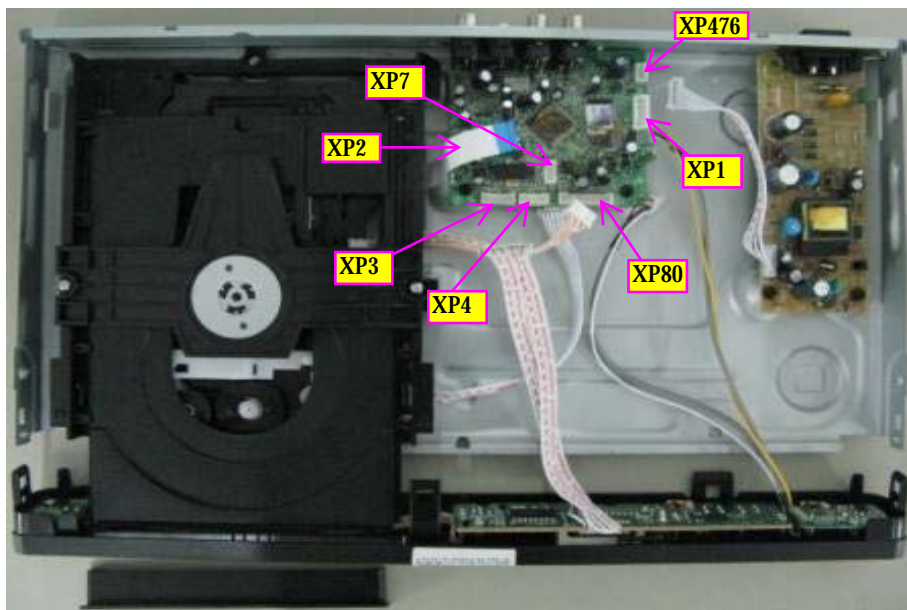
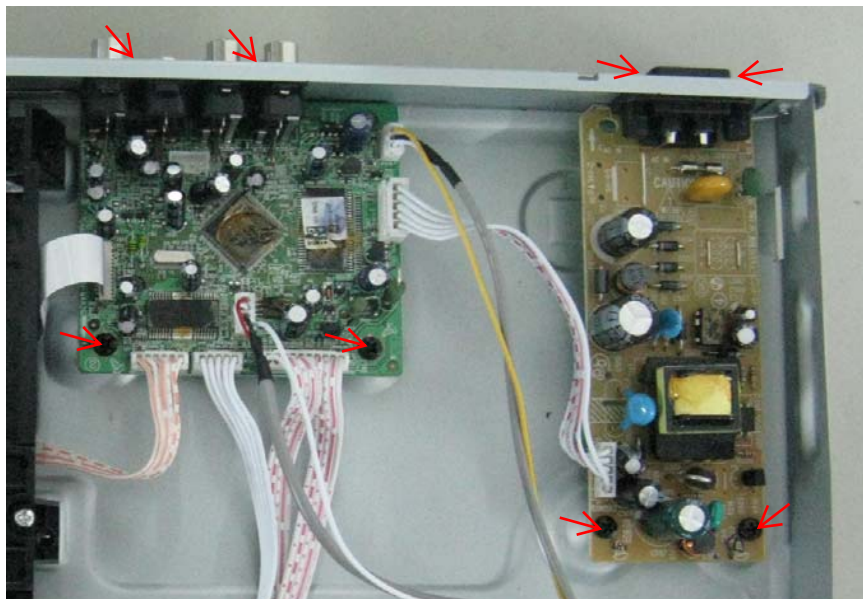

Figure 4
Figure 6
**Step4:** Dismantling Front Panel, disconnect the connectors (XP80, XP7, XP476), need release 3 snaps of Front Panel & 2 snaps of bottom cabinet , then gently pull the Panel out from the set. (Figure 4 - Figure 6)
**Step6:** Dismantling Main Board, first disconnect the connector (XP1), and then remove 4 screws. (Figure 6)
**Step7:** Remove the 4 screws on Power Board to dismantle the Power Board. (2 screws for /93. Figure 6)